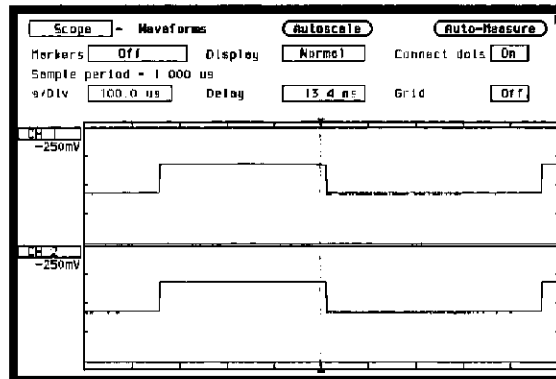

Figure 25-7. One Full Cycle Waveform
1. From the Waveform menu, select s/Div and change s/Div field to 100 μ s to display only one full cycle of the waveform. See figure 25-7.
3. Be sure the displayed waveform is at least one full cycle. If not, touch TRIG key, then select **s/Div**. Change s/Div field to 100 μ s to display only one full cycle of the waveform. See figure 25-7.